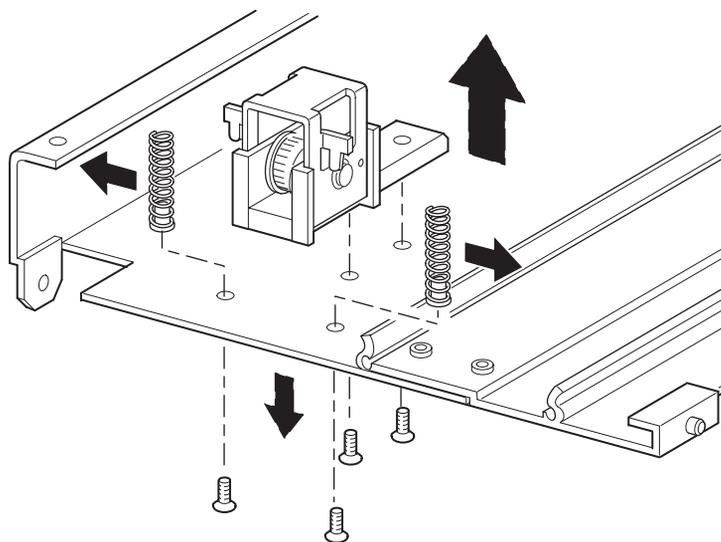

Figure 16: Removing the belt tensioner ramp and idler pulley
8. Remove the belt tensioner ramp and idler pulley components as follows (see Figure 16 on page 38):
12. Secure the belt tensioner ramp and idler pulley to the extension using the two previously removed screws (see Figure 16 on page 38).
13. Secure the belt tensioner ramp and idler pulley springs using the two previously removed screws (see Figure 16 on page 38).